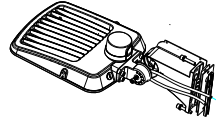

Figure 5
3.DIRECT MOUNTING (DM)
- Step 1: Remove the bracket mounting screws on the fixture, open the side lid of bracket and run the wires through the bracket. (Figure 5)